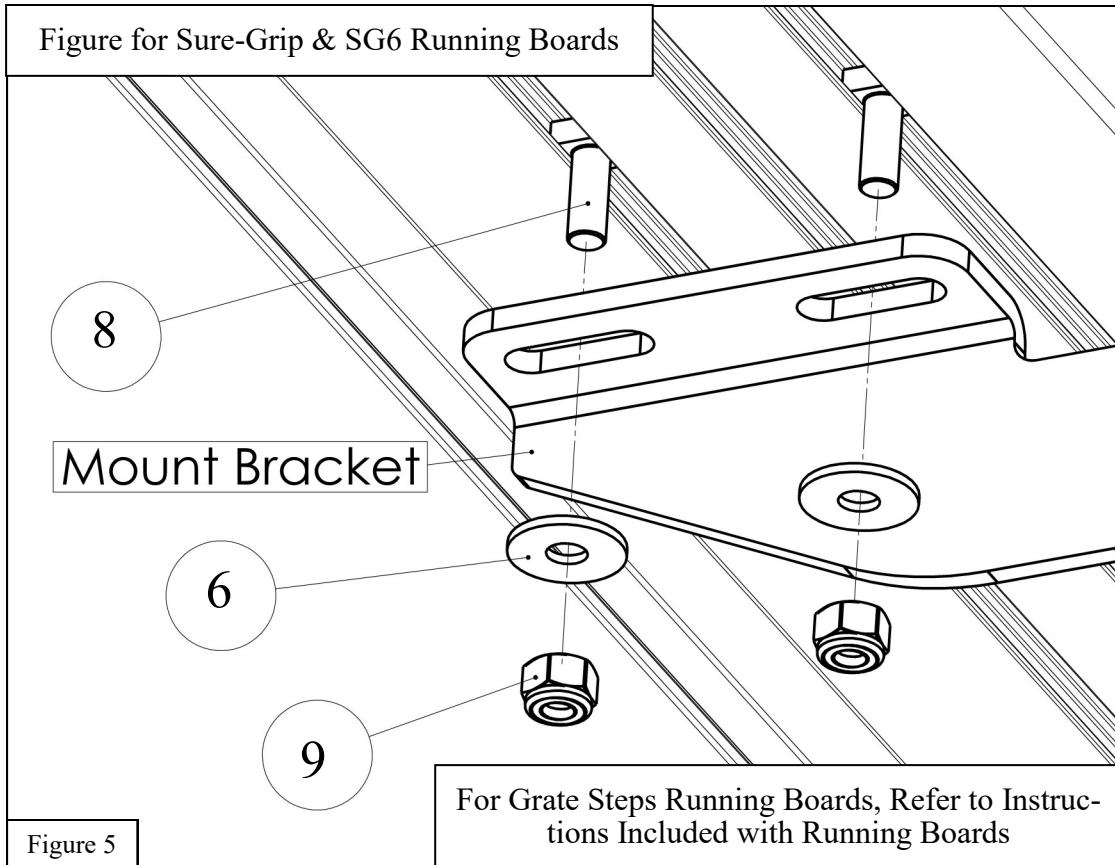

Figure 5
5. Fasten the running boards respectively to either side using the provided M8/ 5/16" hardware (Items 6, 8, 9). See **Figure 5**